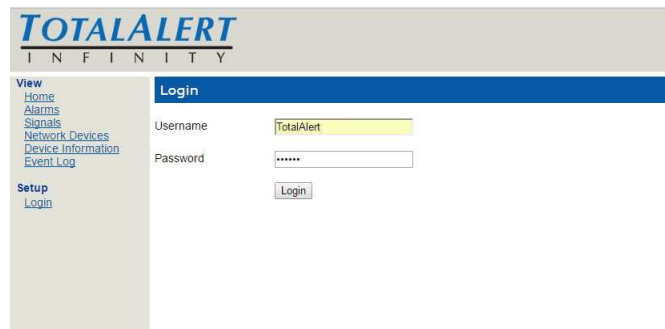

Figure 282
2. The web browser will request a username and password (Figure 282). The factory defaults are: